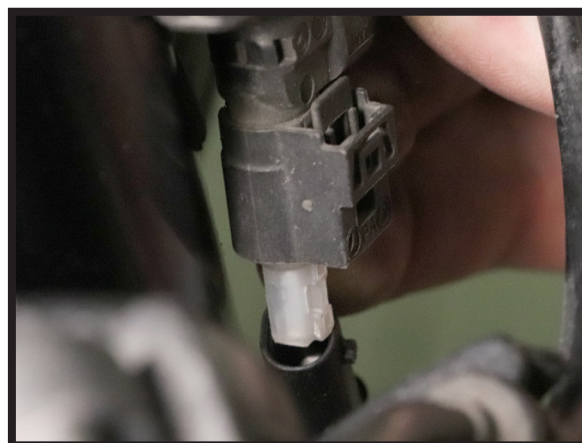

FIGURE 6
4. DISCONNECT ELECTRICAL CONNECTION. (FIGURE 6)